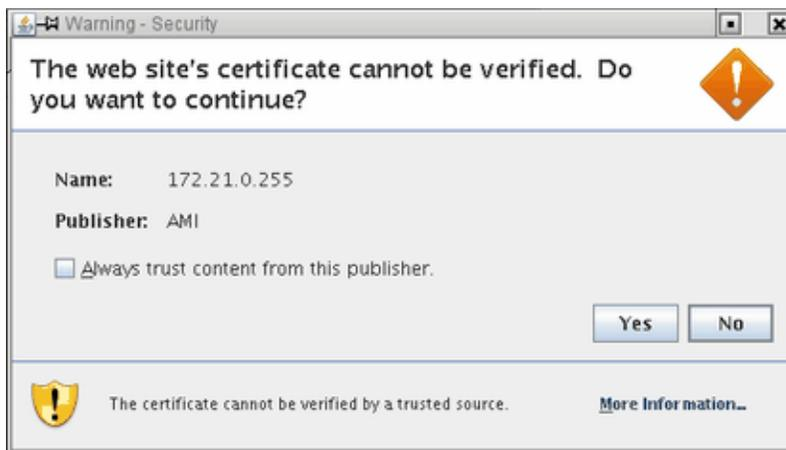

Figure 3-6 Web site Warning-Security Screen
9. You will then get a screen about **The web site's certificate cannot be verified. Do you want to continue?**, as shown in Figure 3-6 on page 38. Click the **Yes** button to continue. You can also click the checkbox to keep it from showing up later.